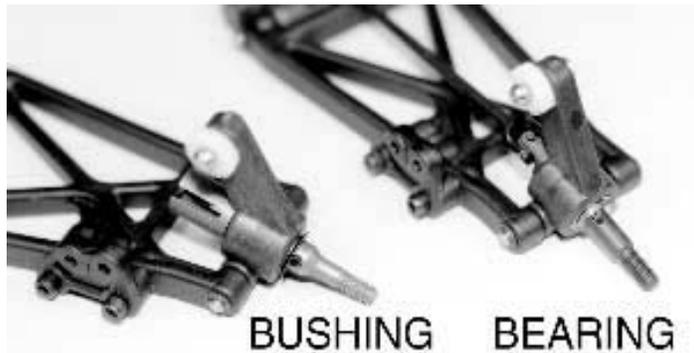

Fig. 105
spacer. Line up the pin holes in the arm and hub carrier. (4) Install the outer hinge pin through the forward pin hole of the A-arm then through the hub carrier. (5) Now place the nylon spacer between the hub carrier and the rear arm pin hole and push the pin through the spacer and rear arm pin hole. (6) Install one E-clip on each end of the hinge pin. Your completed rear arm assembly will look like fig. 105. (7) Now go back and repeat the steps to assemble the right suspension arm and hub carrier, making sure that the spacer is on the rear side of the hub carrier just like the left arm assembly. **Racer's Tip:** The 1/8" spacer will allow you to change the length of the truck's wheelbase for different handling characteristics or track conditions, by moving it in front or behind the rear hub carrier. The rear arm mount is no longer position adjustable on the T2.